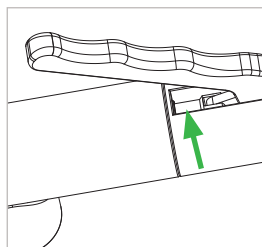

Figure 17
- ▶ Apply a short burst of spray with the aiming tube to the actuator peg (Pos. 3) (Figure 17).